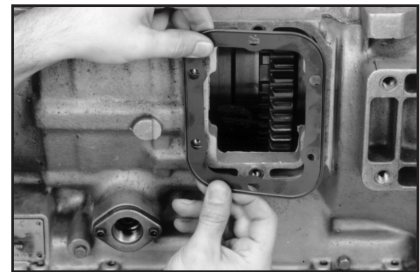

Figure 14
2. Place the 6-Bolt rubber coated gasket (35-P-69) on the transmission. The beaded (raised) surface should be facing the special mounting plate (**Fig. 14**).